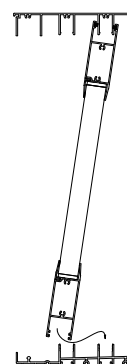

Figure 19
- 2) Position panel so that the top of panel slips over track frame header. Swing bottom of panel in until bottom of panel is aligned over sill and set panel on roller spline. (See Figure 19)